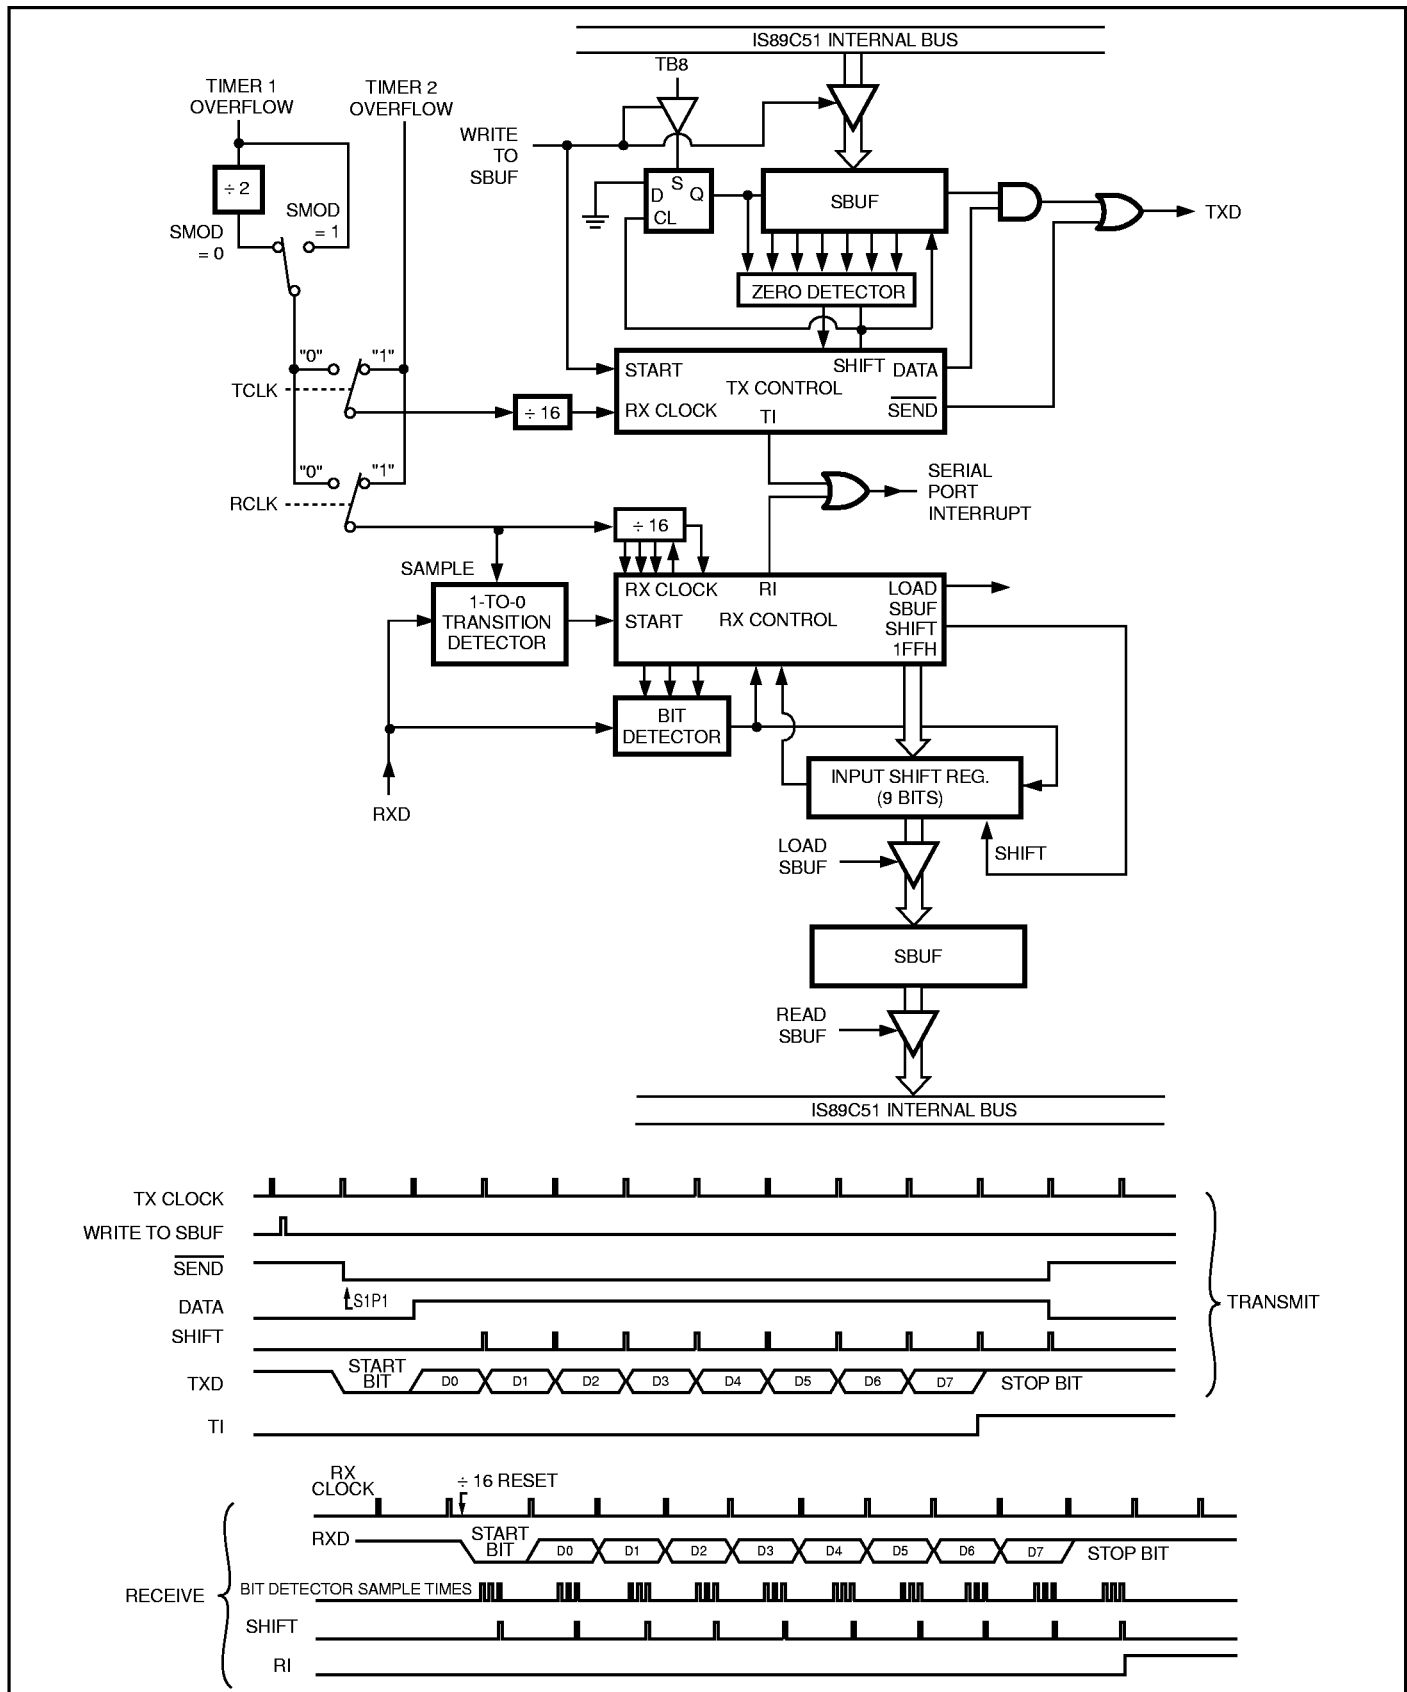

Figure 13. Serial Port Mode 2
Eleven bits are transmitted (through TXD) or received (through RXD): a start bit (0), eight data bits (LSB first), a programmable ninth data bit, and a stop bit (1). On transmit, the ninth data bit (TB8 in SCON) can be assigned the value of 0 or 1. Or, for example, the parity bit (P, in the PSW) can be moved into TB8. On receive, the ninth data bit goes into RB8 in Special Function Register SCON, while the stop bit is ignored. The baud rate is programmable to either 1/32 or 1/64 the oscillator frequency (see Figure 13).
Figures 13 and 14 show a functional diagram of the serial port in Modes 2 and 3. The receive portion is exactly the same as in Mode 1. The transmit portion differs from Mode 1 only in the ninth bit of the transmit shift register.